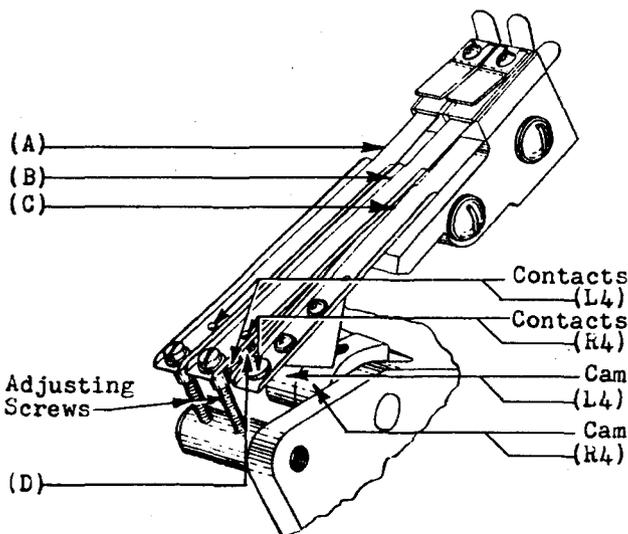

Fig. 10 - Limit Cams and Contacts
2.19 Limit Cam Contacts: Fig. 10
2.20 Limit Cams: When the 0 limit of the TRS MOT dial passes the index by more than .25 division, contacts (L4) (Fig. 10) shall close. When the 45 limit of the TRS MOT dial passes the index by more than .25 division contacts (R4) (Fig. 10) shall close. Gauge by eye.